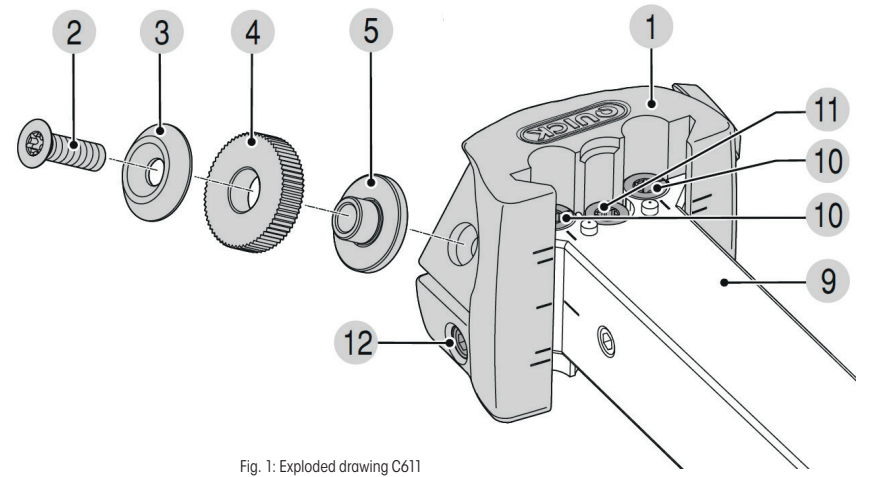

Fig. 1: Exploded drawing C611
Please specify the tool number (including shank version) and the corresponding position number (see Figure 1).
For assembling and/or changing the knurling wheel (Fig. 1, pos. 4), first loosen the countersunk screw (Fig. 1, pos. 2) completely and remove the knurling wheel and washer (Fig. 1, pos. 3). Then fit the knurling wheel and the washer on the bush (Fig. 1, pos. 5) and re-tighten with the countersunk screw.
This tool type can be used modularly in front of or behind the rotation centre. For this purpose, mount the countersunk screw (Fig. 1, pos. 2), washer (Fig. 1, pos. 3), knurling wheel (Fig. 1, pos. 4) and bush (Fig. 1, pos. 5) on the other side of the knurl holder.
The countersunk screw (Fig. 1, pos. 2), bush (Fig. 1, pos. 5), washer (Fig. 1, pos. 3) and knurling wheel (Fig. 1, pos. 4) should be replaced after an appropriate number of cycles, no later than after appearance of considerable wear or deviating process parameters.
If the countersunk screw (Fig. 1, pos. 2) loosens during the process, we recommend using LOCTITE® high-strength screw adhesive.